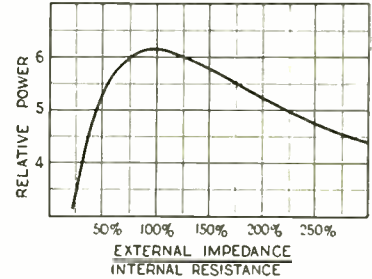

Fig. 5. Relative power curve, showing change with variation of impedance
Referring again to Fig. 1, let us assume that the impedance Z_0 represents the impedance of a loud speaker at a certain frequency. Then the relative power developed in the loud speaker by the signal can be shown as in curve of Fig. 5 to be dependent on the relation between r_p and Z_0 . For any one phase angle of Z_0 it was shown in the June article the maximum power obtainable is when the external impedance equals the internal impedance. This is the so-called matching of impedance. We will now demonstrate the fact that "matching of phase angles" has an even greater affect on the power developed than the "matching of impedances" although for absolute efficiency both should be matched. This important principle is stated very clearly in "Transmission Circuits for Telephone Communication" by K. S. Johnson, page 16 "the maximum amount of power which it is possible for a receiving device to absorb from a source having an electromotive force E, and an effective resistance R_0 is the square of the electromotive force (E) divided by 4 times the effective resistance ($4R_0$) and is obtained when the impedance of the source and the receiver are conju-